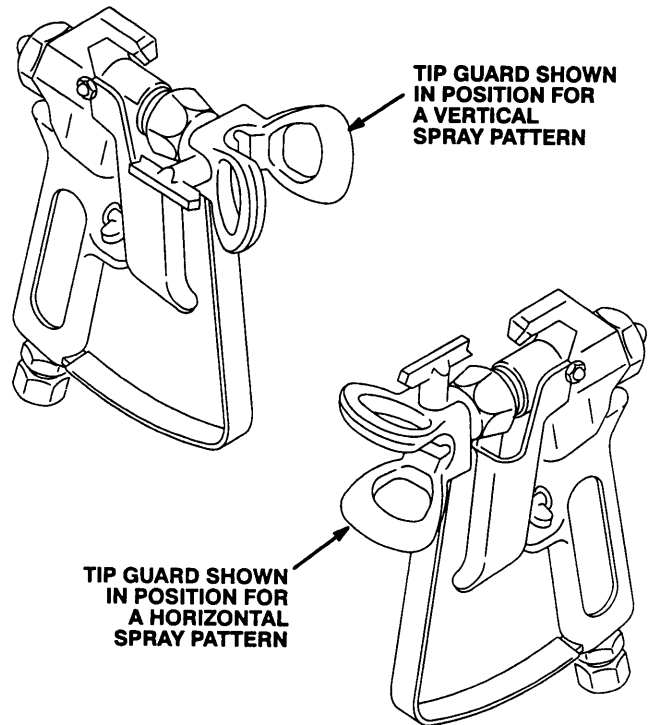

Fig 11-1
- Test the spray pattern. To adjust the direction of the spray pattern, engage the gun safety latch and loosen the retaining nut. Position the tip guard horizontally for a horizontal pattern or vertically for a vertical pattern. Hold the tip guard in place while tightening the retaining nut. See Fig 11-1.